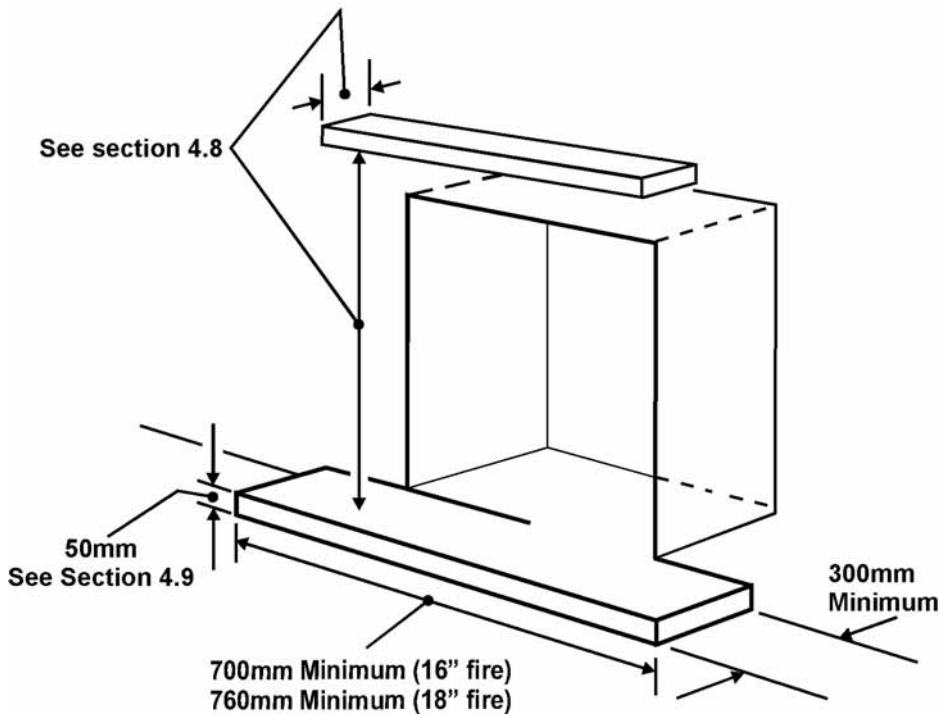

Figure 2. Hearth sizes.
The appliance must be mounted behind a non-combustible hearth unless the conditions of section 4.10.1 are met (N.B. conglomerate marble hearths are considered as non-combustible). The appliance can be fitted to a minimum class “O” – 150°C surround. The hearth material must be at least 12mm thick. The periphery of the hearth (or fender) should be at least 50mm above floor level to discourage the placing of carpets or rugs over it (See figure 2). On none elevated installations the surface of the hearth must be sufficiently flat to enable the bottom of the fascia and the bottom front cover to be aligned horizontally. Any excessive unevenness (uneven tiles, Cotswold stone, etc.) should be rectified. The base of the fireplace opening must be level with the top surface of the hearth. There should be no gaps between the hearth and the fireplace opening.
In the United Kingdom, as supplied, the appliance can be installed in to a fireplace complete with a hearth complying with BS1251. The required hearth and clearance dimensions are shown in figure 2. (Remove any existing heating appliance - when using a convection box it may be necessary to remove the firebrick back). When installing using a convection box see section 6.
**For models fitted with the Essence fascia** - The fascia has been specifically designed for 'hole in the wall' installations. It is recommended that a hearth should be installed as in figure 2. If a hearth is not fitted, the fire must be installed so that the distance from the base of the fireplace opening in the wall to the finished floor level is at least 115mm (This will give a distance under the fascia of 56mm to the finished floor level). Where there is no floor covering or carpet and the floor is of a type that is likely to be covered in such a way then the distance from the base of the fireplace opening in the wall to the finished floor level should be increased to at least 190mm.